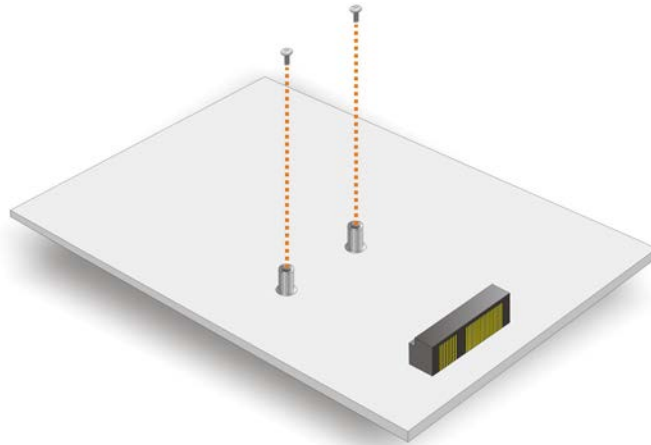

Figure 4-16: Remove the Retention Screws for the PCIe Mini Card
Step 2: Remove the retention screws. Remove the two retention screws secured on the motherboard as shown in **Figure 4-16**.